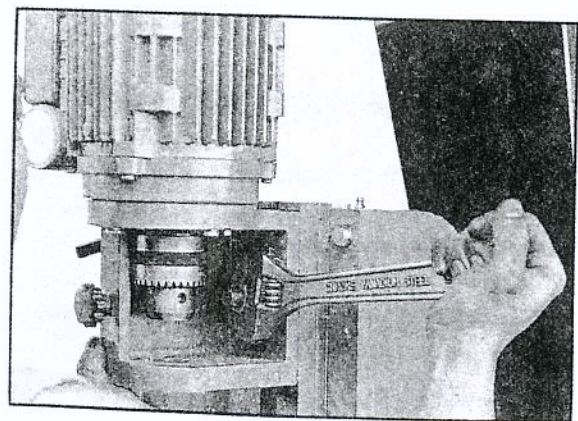

Fig. 2.
3. Holding the morticer head to loosen the lock nut. This prevent the head from accidentally falling while the head is loosened. Shown in Fig. 2.